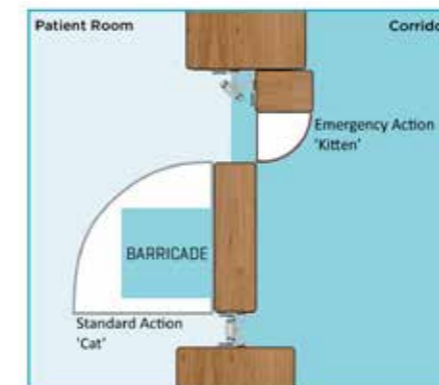

Figure 13.3
- Dual Swinging Door(s)** – this is where the larger leaf (or potentially both leaves) are installed with a double swinging hinge, refer figures 13.3 and 13.4. During normal use the larger leaf would swing inward only, with the smaller leaf (when locked in position) acting as a stop to prevent the larger leaf swinging outward. If a barricade is attempted, the smaller leaf can be unlocked allowing both doors to swing outward [refer figure 13.4] and away from the barricade, meaning that the full width of the doorway is available for staff access.